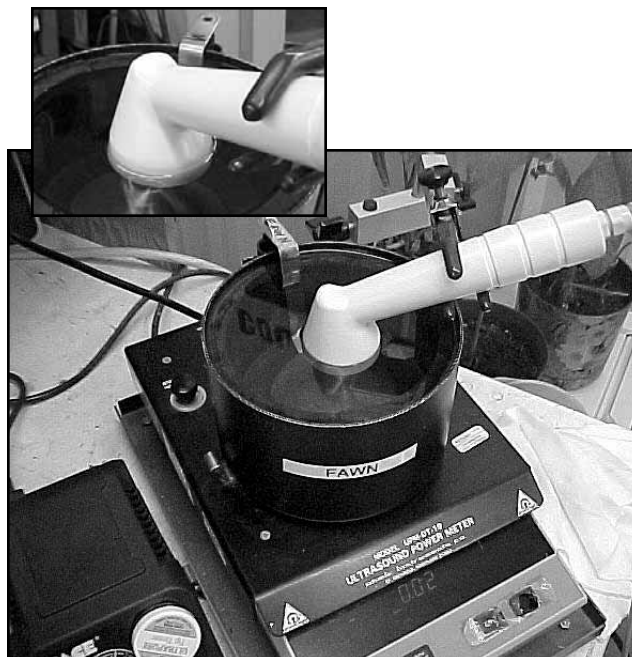

FIGURE 5.24
2. Place an Applicator into the Power Meter retainer. Make certain the Applicator's aluminum face is submerged in the degassed water and centered directly over the S.S. cone. See Figure 5.24.